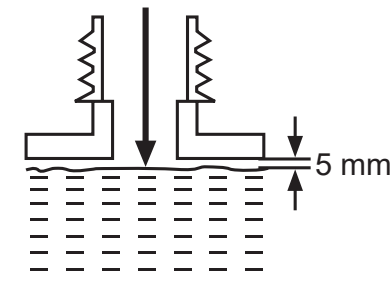

Fig. 8
4. Add suitable fuel into the fuel tank. Leave a minimum 5 mm of space between the top of the fuel and the inside edge of the tank to allow for expansion (Fig. 8).